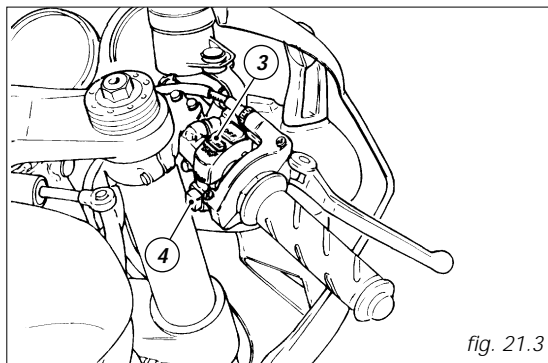

fig. 21.3
3) Check that the stop switch (3, fig. 21.3) is positioned to **○ (RUN)**, then press the starter button (4).